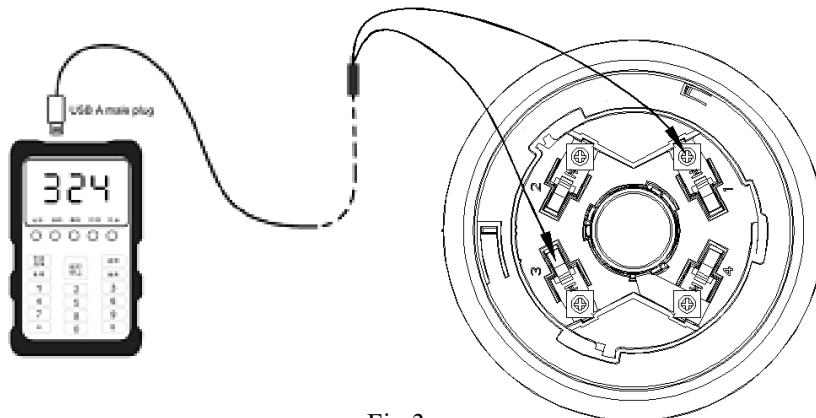

Fig.3
- 2) Coding address: The Sounder Beacon Base must be encoded address by a special coder (BP-FD-ACODER) before the installation. Fig.3 shows the wiring diagram of the Sounder Beacon Base and coder. After wiring, press the “#” key to select “324” mode, set the coder with the coding function, then select the correct address number and press the “RUN/STOP” key to complete the address code setup. (Note: See the User’s Manual of the coder for the detailed operation.)